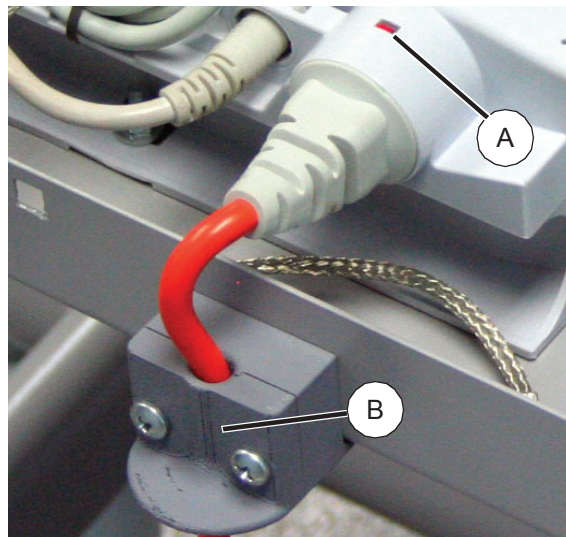

Figure 9: Mains lead retaining clip
- 10.1.2 Insert a small flat bladed screwdriver into the slot (Fig 9, Item A) above the control box mains inlet socket to release the retaining clip. Disconnect the mains lead (Fig , Item 9) from the control box (Fig , Item 6).
- 10.1.3 Remove the two panhead Pozidriv screws from the bracket assembly securing the mains lead to the bed frame (Fig 9, Item B).
- 10.2.2 Replace the two panhead Pozidriv screws in the bracket assembly to secure the mains lead to the bed frame (Fig 9, Item B).